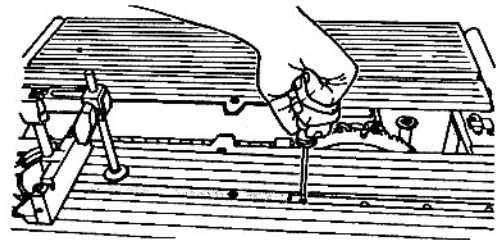

Fig. B-13
12. Move the miter gauge through the miter slot, adjusting the screws as you go, as demonstrated in Fig. B-13.